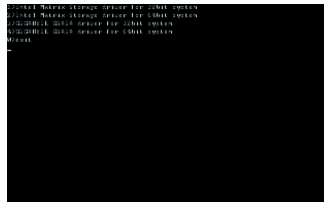
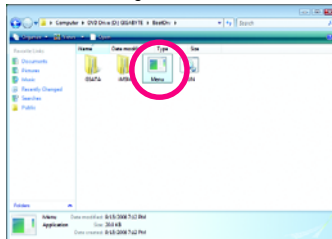

Figure 2
Figure 3
Step 2: When the controller menu (Figure 2) appears, remove the startup disk and insert the blank formatted disk. Select the controller driver by pressing the corresponding letter from the menu and press <Enter>. For example, from the menu in Figure 2:
Use an alternative system and insert the motherboard driver disk. From your optical drive folder, double click the **Menu.exe** file in the **BootDrv** folder (Figure 3). A command prompt window will open similar to that in Figure 2.